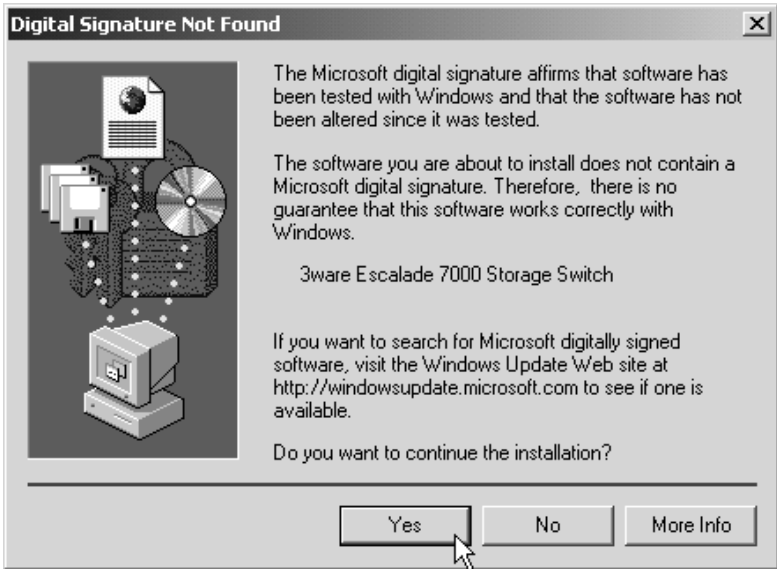

Figure 46. Digital Signature Not Found
- 5 Depending on the driver diskette that was packaged with your storage switch the **Digital Signature Not Found** screen may appear (see Figure 46). If this screen appears, click on **Yes** to continue and follow the instructions to complete the driver installation.